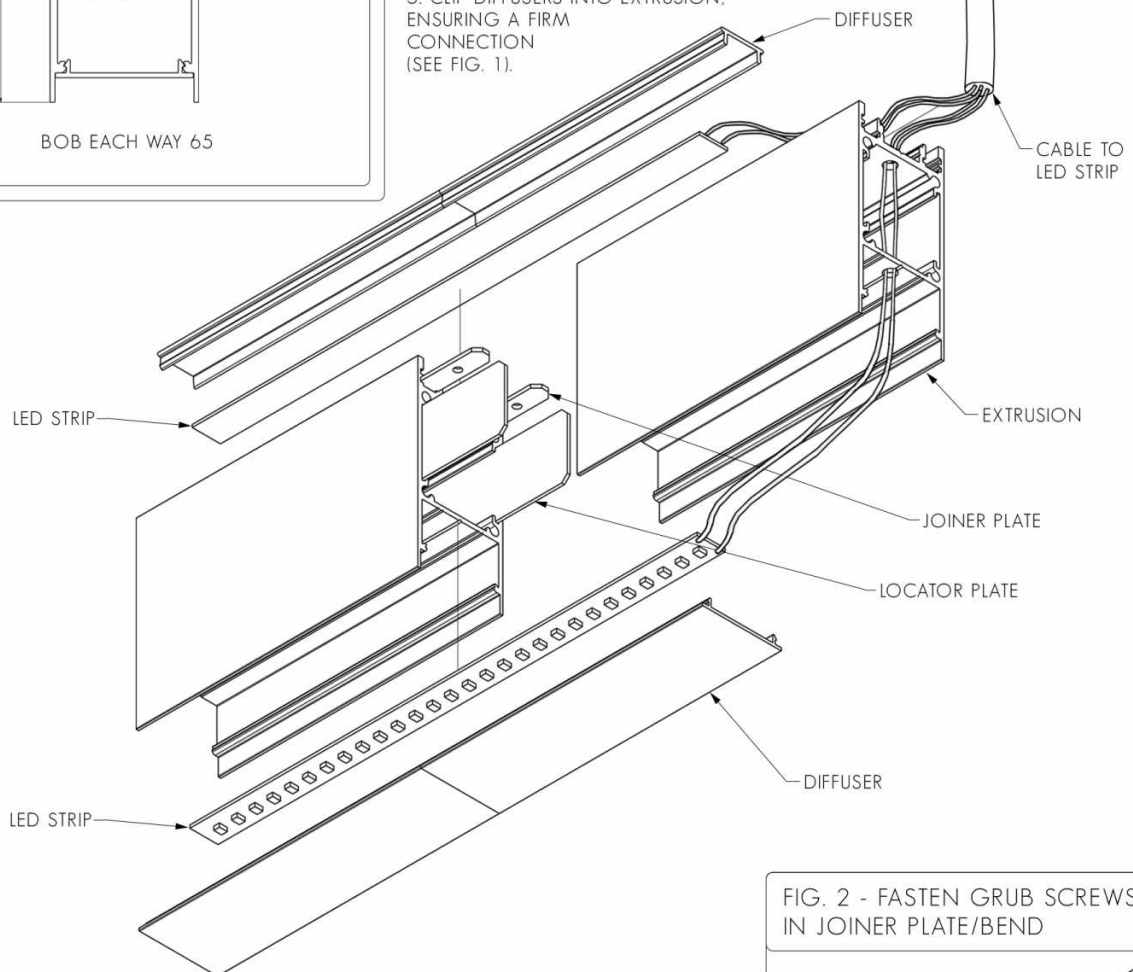

FIG. 1 - ENSURE DIFFUSER IS MOUNTED SECURELY
1. IF USING MULTIPLE LENGTHS OF EXTRUSION, SLIDE EXTRUSIONS TOGETHER ON TO LOCATOR PLATES & JOINER OR BEND PLATE (SEE FIG. 1 & 2).
5. CLIP DIFFUSERS INTO EXTRUSION, ENSURING A FIRM CONNECTION (SEE FIG. 1).